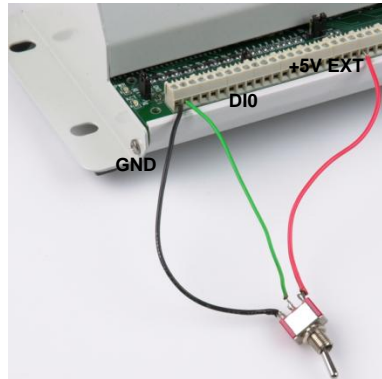
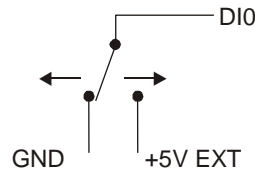

Figure 8. Digital connection DIO detecting the state of a switch
Figure 9. Schematic showing switch detection by digital channel DIO
You can use the USB-1608HS-2AO digital I/O terminals to detect the state of any TTL-level input. Refer to the switch circuit shown in Figure 8 and the schematic shown in Figure 9. If you set the switch to the +5V EXT input, DI0 reads *TRUE* (1). If you move the switch to GND, DI0 reads *FALSE* (0).